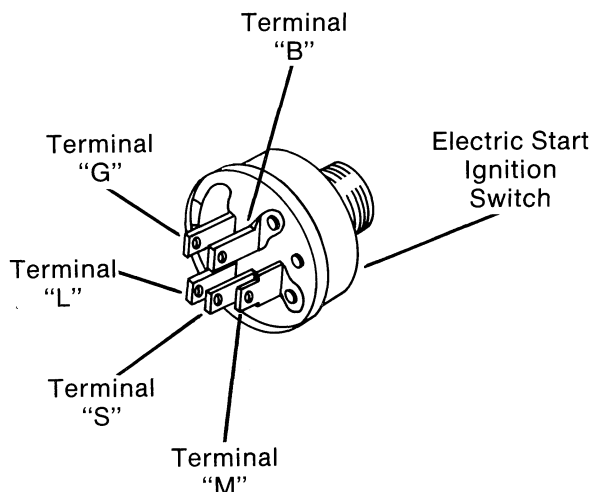

FIG. 36
- I. Using continuity tester or ohmmeter, attach one lead to terminal "M" on ignition switch (Fig. 36) and touch all other terminals with other lead. Continuity should **only** appear between terminals "M" and "G". If continuity appears between any other terminals, switch is defective, replace switch.